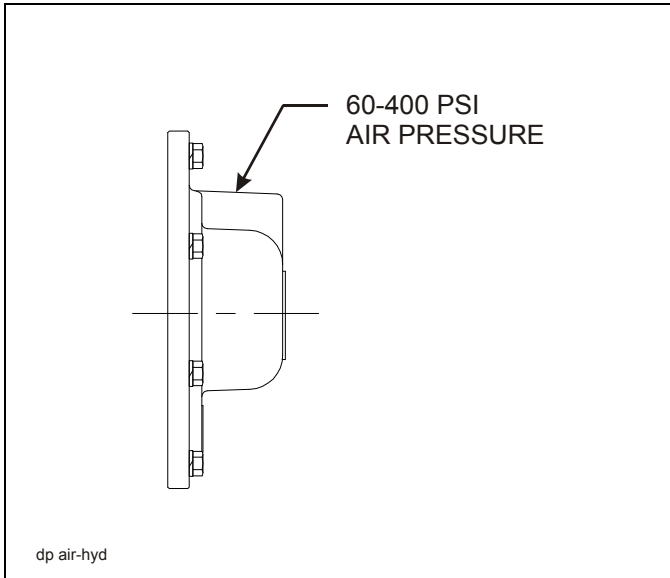

Figure 3-8: Air/Hydraulic Kickout
- 2. The air freespool clutch is operated by application of air pressure to the fitting supplied on the winch gearbox housing (See Figure 3-8.) The fitting is designed to accept 1/4" rigid plastic tubing.